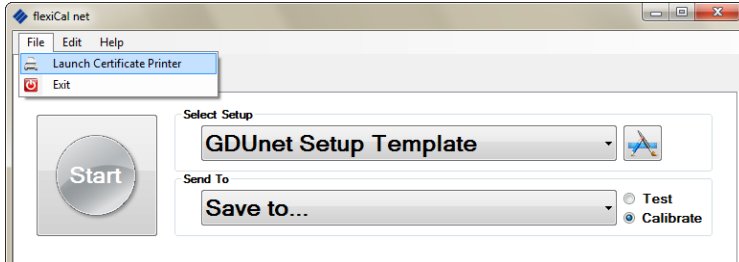

Fig. 7-8 Launch Certificate Printer
1. Select 'Launch Certificate Printer' from the file menu options, as illustrated in Fig. 7-8.